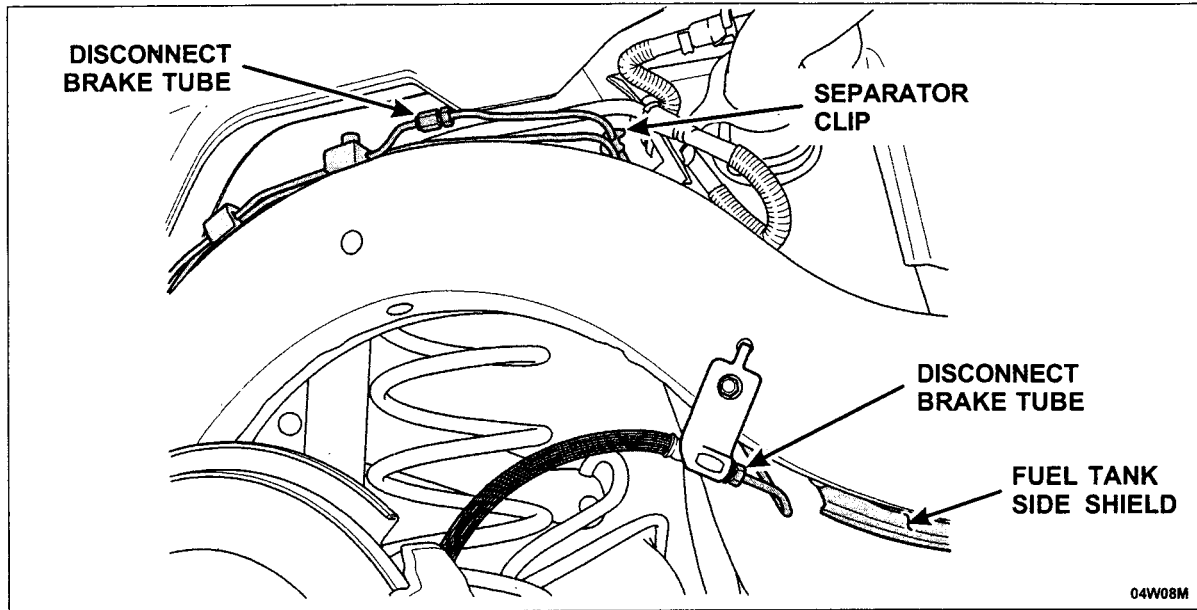

FIGURE 13
9. Disengage the small white separator clip from the brake tube near the fuel filler neck. Retain the clips for reuse. See Figure 13.
10. Disconnect the brake tubes at the left rear brake jounce hose and at the brake crossover tube leading to the right rear brake assembly. See Figure 13.
11. Remove the fuel tank side shield, held in place on the frame with two (2) pushpins. See Figure 13.
- b) Inspect that all necessary small white separator clips and black rubber insulators are in place and properly secured to the brake tubes. See Figures 13, 17, 18, 19 and 23. Four (4) extra rubber grommets are provided in the service kit. These grommets are to be used to assure brake tube-to-brake tube clearance, along with brake tube clearance to fuel tubes, vapor tubes, air suspension tubes and the vehicle frame rail. They ARE NOT to be used to provide clearance between the brake tubes and the floor pan. If the brake tubes are within 8 mm (approximately 3/8 inch) of the floor pan, manually adjust the tubes to obtain the minimum clearance.
- e) Install the plastic fuel tank shield using the two (2) pushpins.